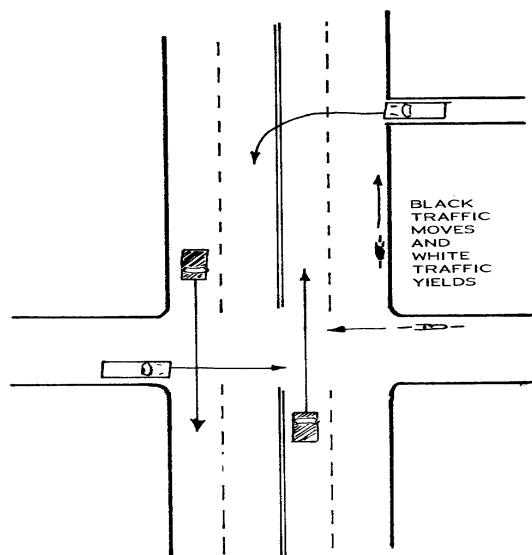

Fig 2: Right-of-Way Examples
1) The driver on the less important road must wait for the driver on the more important road. For example, the driver in a driveway must wait for traffic on the street. Likewise, the driver on a residential street must wait for traffic on an arterial street (a main through street). Because you can't tell an important street as you are driving towards it, local governments install STOP and YIELD signs protecting traffic on the more important streets. The driver who faces the STOP or YIELD sign knows that he must wait for traffic on the other street. The driver who sees the backs of the STOP or YIELD signs that protect him knows that he is protected, so he keeps moving fast. Generally, the more important streets have faster speed limits and faster traffic than less important streets. Study Figure 2.